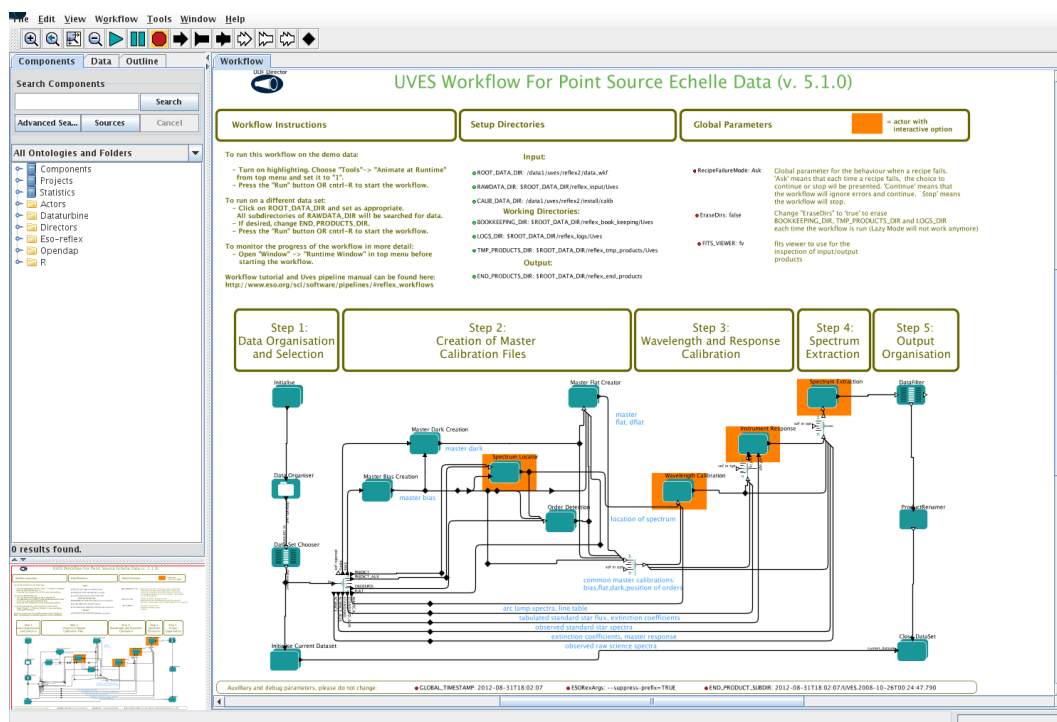

Figure 4.2: *UVES workflow general layout.*
2. Now open the UVES workflow by clicking on File -> Open, selecting the file `uves-5.1.0/Uves.xml` in the file browser, and clicking Open (this file is located in `<install_dir>/share/reflex/workflows/uves-5.1.0/Uves.xml` in the pipeline installation). You will be presented with the workflow canvas shown in Figure 4.2. Note that the workflow will appear as a canvas in a new window.